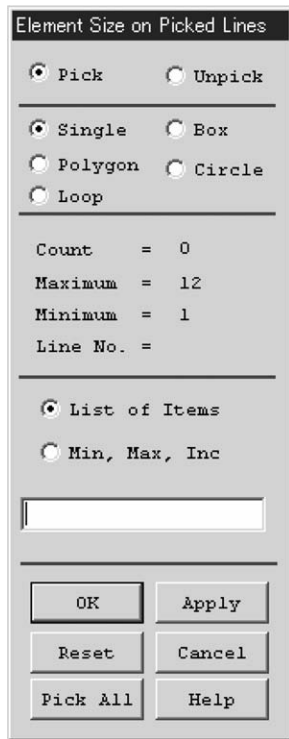
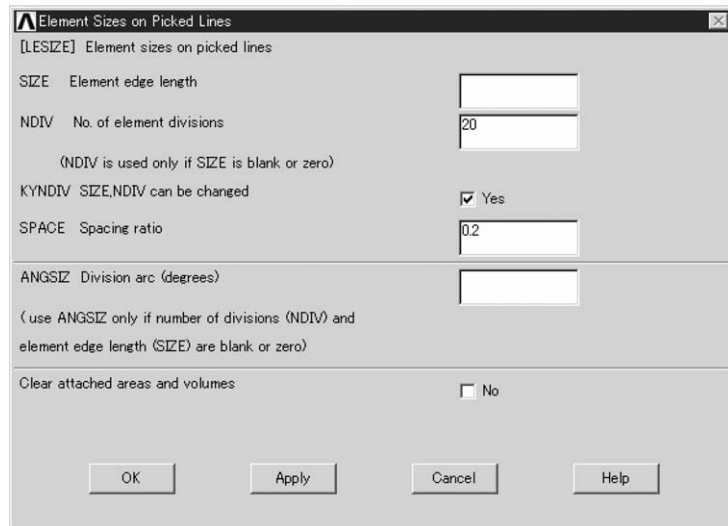

Figure 5.48 Window of Element Size on Picked Lines.
Figure 5.49 Window of Element Sizes on Picked Lines.
- (1) Click **Lines Set** box in the window Mesh Tool. Then the window **Element size on Picked Lines** as shown in Figure 5.48 opens.
- (2) Pick lines **1, 4, 7, 10** on **ANSYS Graphics** window and click **OK** button in Figure 5.48. The window **Element Sizes on Picked Lines** as shown in Figure 5.49 opens.
- (3) Input **20** to **NDIV** box and **0.2** to **SPACE** box and, then, click **Apply** button. Next, input figures to these boxes according to Table 5.6.
- (4) When all figures are inputted, click **OK** button of the window **Element Size on Picked Lines**.